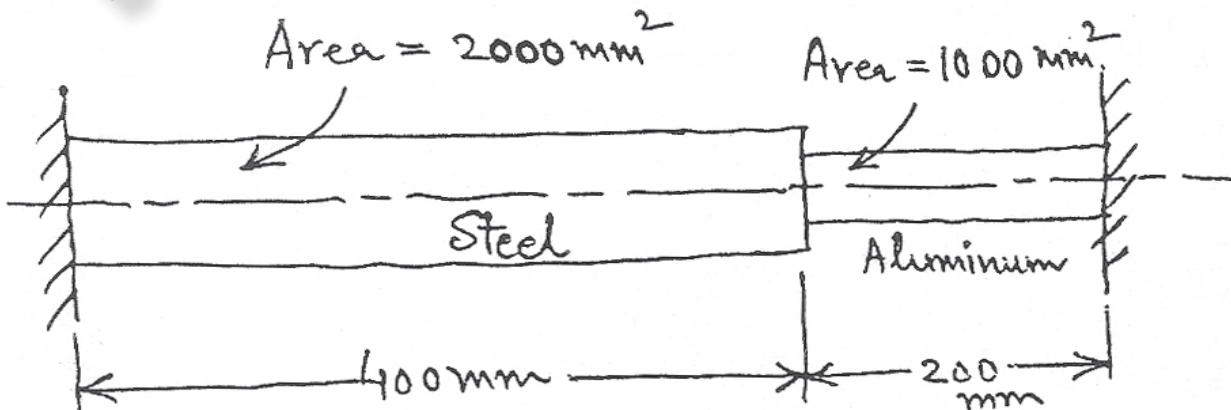

Fig. 1
- 1[a] Derive the expressions for the normal and shear stresses on a plane inclined at an angle  $\phi$  for a biaxial normal stress state. (4)
- [b] At a point in a material there are normal stresses on  $30 \text{ N/mm}^2$  and  $60 \text{ N/mm}^2$  tensile, together with a shearing stress of  $22.5 \text{ N/mm}^2$ . Calculate the principal stresses and the inclination of the principal planes to the direction of the  $60 \text{ N/mm}^2$  stress. (4)
- 2 The compound bar shown in Fig.1 is in the unstressed condition at a temperature of  $10^\circ\text{C}$ . Calculate the stresses in steel and aluminum bars at  $60^\circ\text{C}$ .
- [b] A Whitworth quick-return mechanism has been shown in the Fig.1 and determine :
- 3[a] Sketch the output waveform for the network showing in Fig.1 (2)